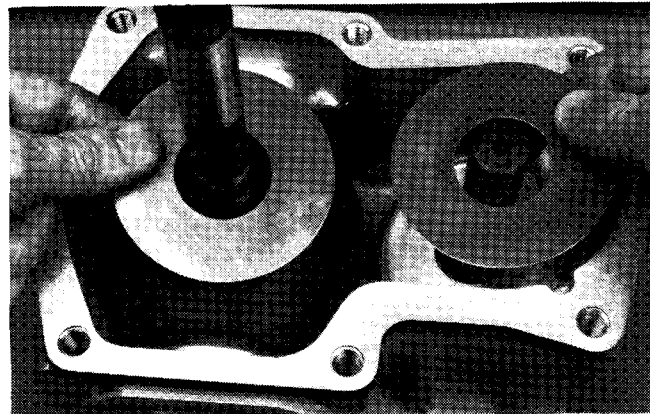

Figure 48
9. Use an o-ring pick or wire to remove thrust plates from swashplate and housing (Fig. 48).